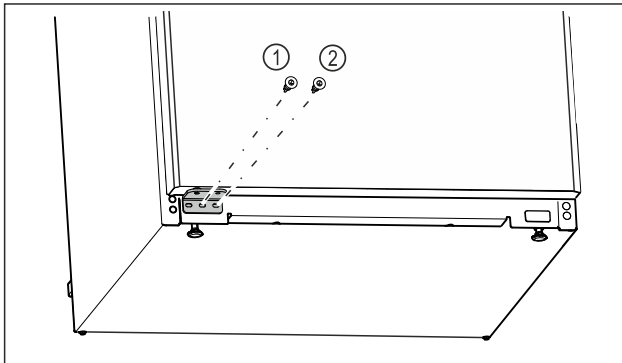

Fig. 18
- Tighten the middle screw of the swap bearing block Fig. 18 (1) with a Torx 20 screwdriver.
- Tighten the inner screw of the swap bearing block Fig. 18 (2) with a Torx 20 screwdriver.